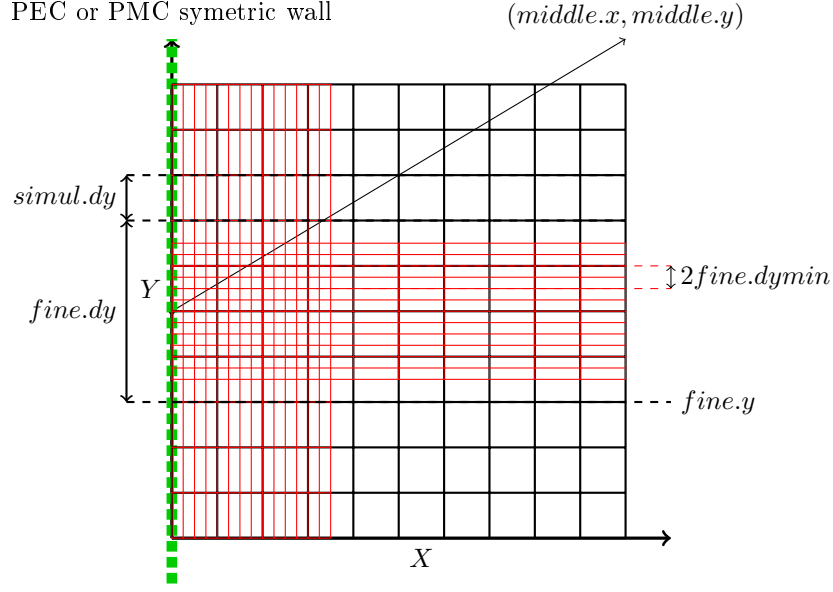

Figure 2: Coarse and variable gridding with  $fine.uponly.x = 1$  and  $fine.x = 1$
- $fine.uponly.x$ : When symmetric boundary conditions are used, the variable grid needs to start without a smooth transition from the coarse grid. When one the obtained grid is depicted in figure 2. It works similarly in the y and z direction.